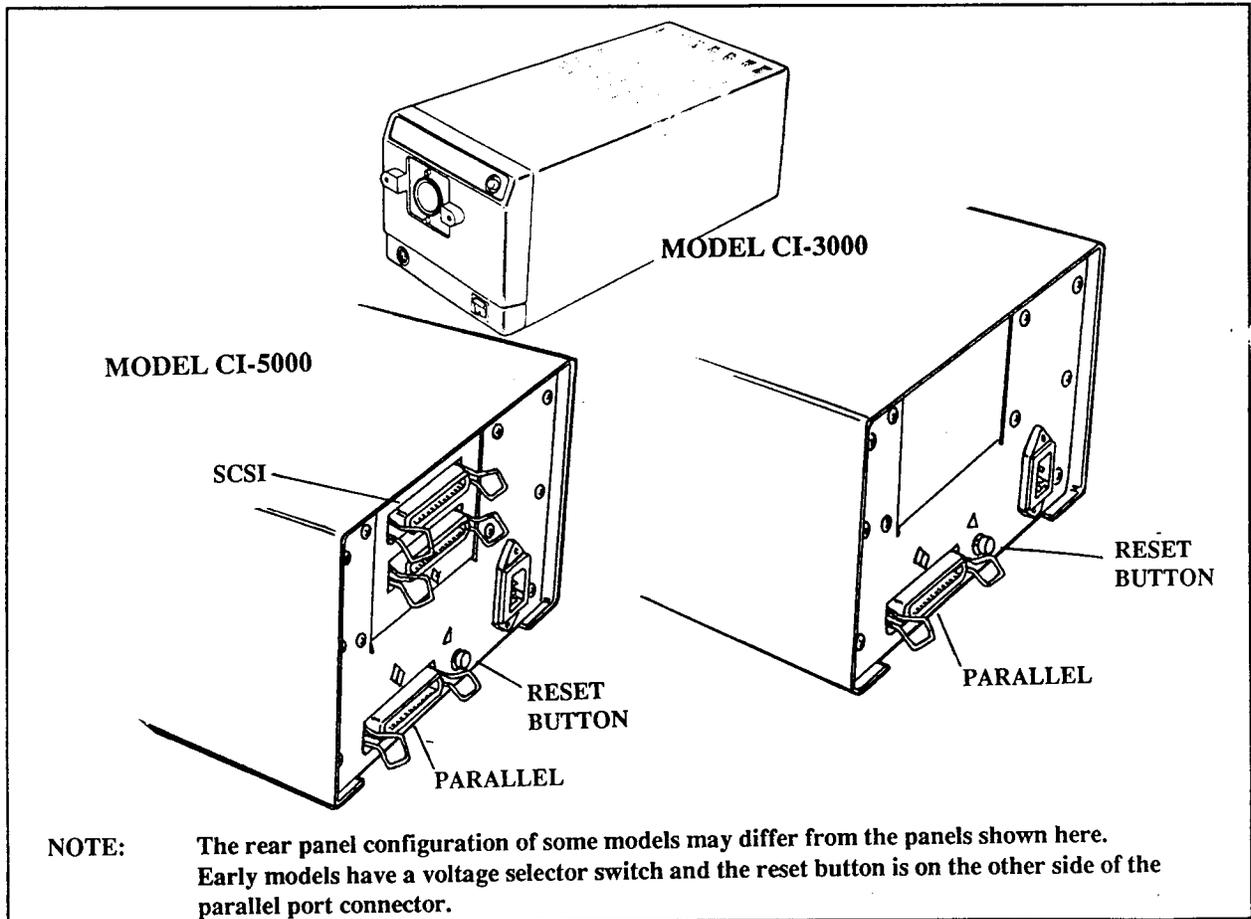

Figure 1-1. Model CI-3000 and Model CI-5000
- o The Model CI-3000 (Figure 1-1) is designed to operate with IBM or compatible computers only. It connects to the host computer via a standard Centronics parallel interface.
- o The Model CI-5000 (Figure 1-1) is used with IBM or compatible PC's, Macintosh computers, and UNIX-based workstations. It has both a Centronics parallel interface for IBM and compatible PC's, and a small computer system interface (SCSI) for Macintosh computers.